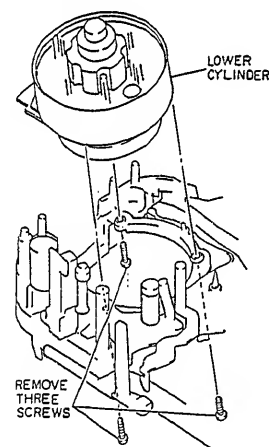

Fig. 2-64
1. Remove three (3) screws holding the lower cylinder. (See Fig. 2-64)